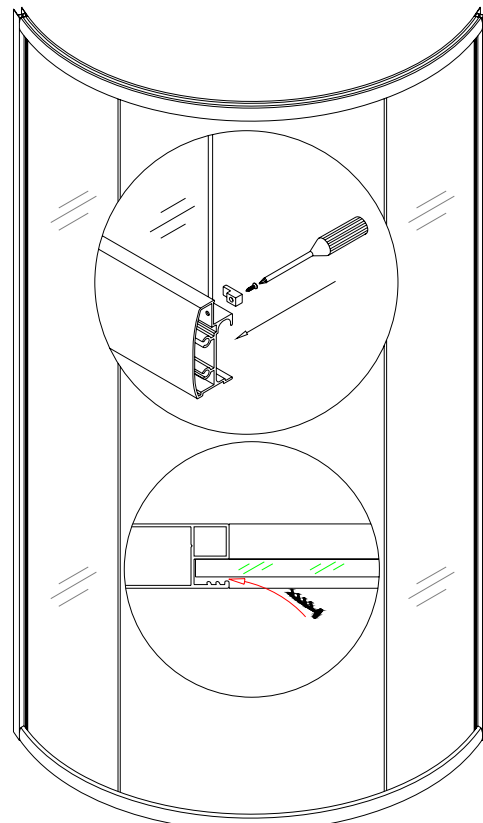

Fig 4
2. Push the Stationary glass (4) into Glass profile groove, and then fasten it by Glass holder (16) to the Guide rail (fig 4).
3. Secure another side of Stationary glass inside of the Glass profile groove with Single side plastic strip (9). Push Single side plastic strip between glass and side of groove (fig 4).